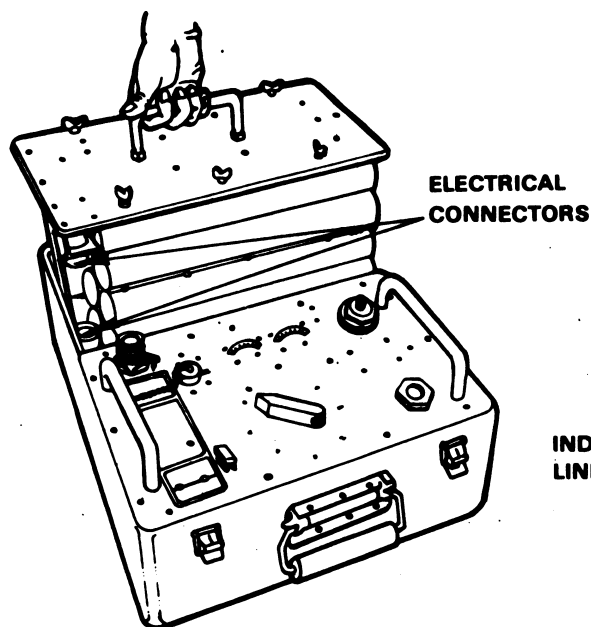

Figure 10. Installing battery assembly.
a. Remove the cover from the missile guidance set. Install a battery assembly in the battery well, insuring that the electrical connectors are properly aligned before seating the battery (fig. 10). Tighten the six wingnut fasteners to secure it.